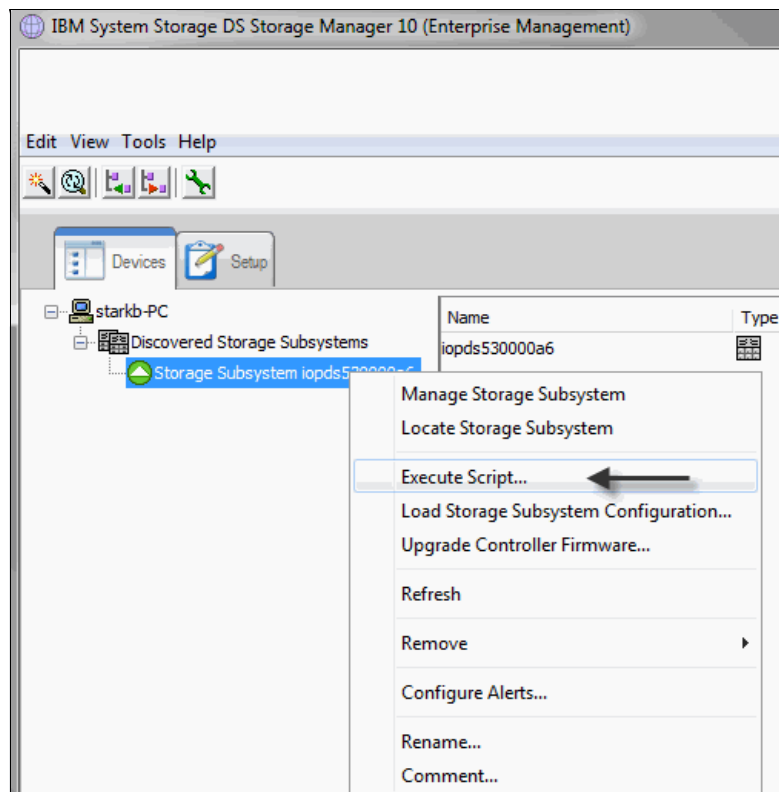

Figure 2-76 Main Storage manager panel and showing Execute Script
2. To execute a script on the storage, you go to the main storage device panel. When you are there, right-click the DS5000 storage subsystem that you will be using. You need to click **Execute Script**, as shown in Figure 2-76.